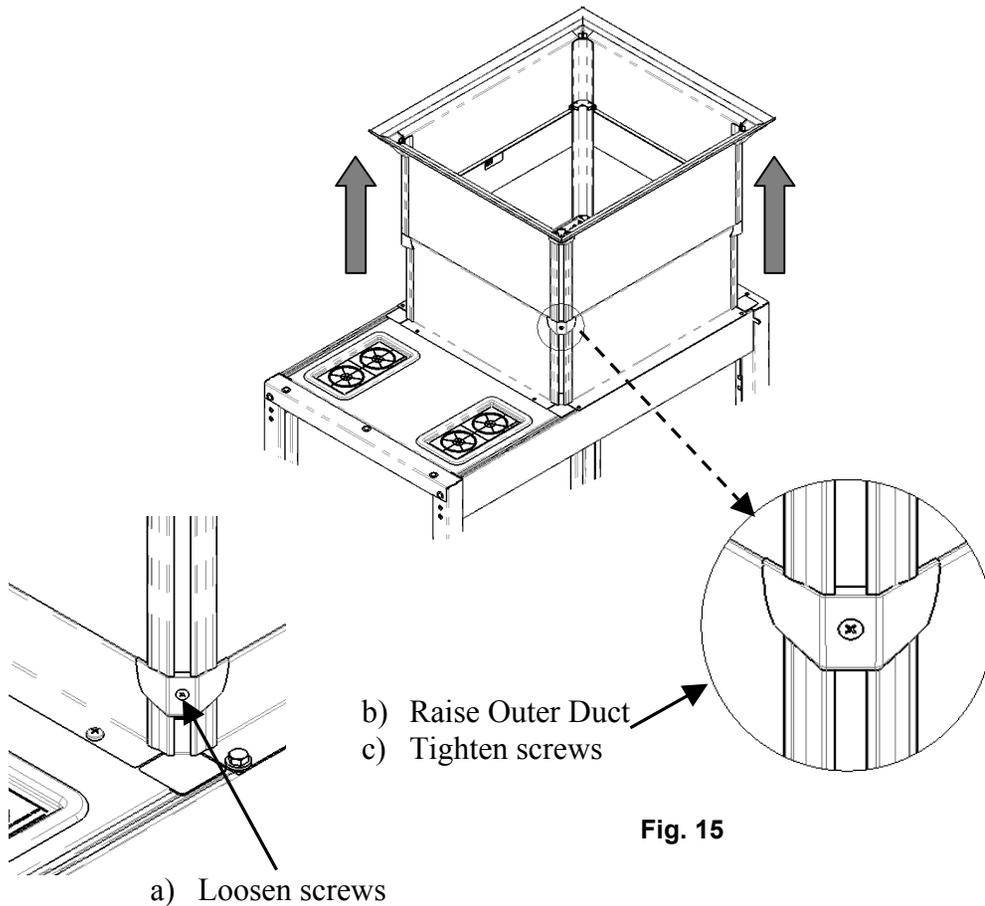

Fig. 14
18. To adjust duct height, loosen the 4 screws in the plastic corner locks (Fig. 14).